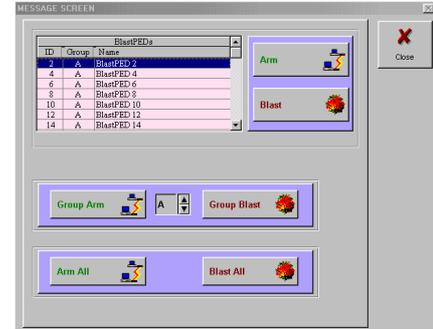

Figure 33: BlastPED
The correct disk MUST be inserted for a command to be queued. If a disk is not inserted, or an invalid disk is inserted, the box shown in Figure 33 will appear.
8. Make the following changes on the "Edit INI" file screen (Figure 33):